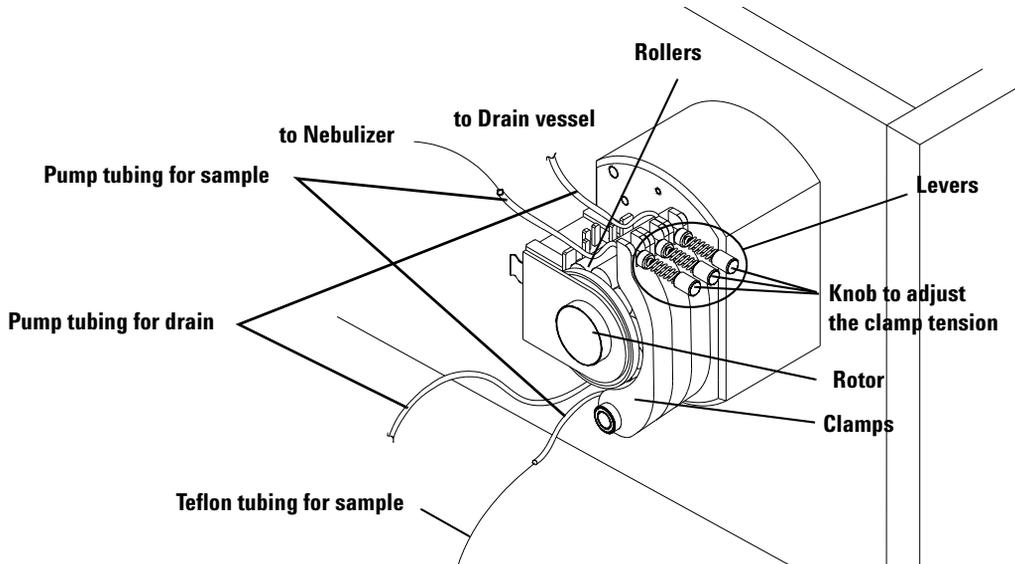

Figure 34 Peristaltic Pump
Open the clamps and lift the tubing from the pump heads. Refer to Figure 34. Examine the tubing for wear and replace any tube that is compressed or damaged.
- 2 Referring to Figure 34, install the combined tube in the peristaltic pump. Based on the direction of the peristaltic pump rotation, hang one stopper on the pump. Stretch the tube to bring it into close contact with the roller and hang the other stopper on the pump.